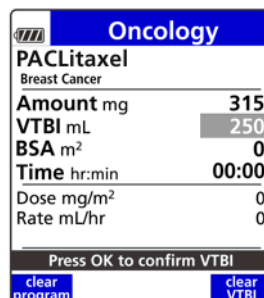

Figure 94. Enter VTBI. See important note on page 81.
- Enter VTBI. Press **OK**. See Figure 94.